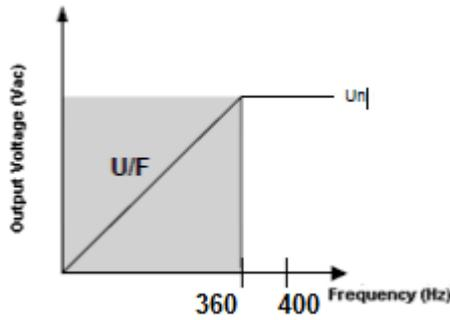

Figure 4.1: Actuation point for U/F protection
**Erro! Fonte de referência não encontrada.** Figure 4.1 shows the curves for voltage variation as a function of frequency variation. For nominal frequency operation, U/F is disabled. When rotation decreases (for ex. when shutting down), excitation diminishes, reducing the output voltage of the alternator. The drop follows a straight line of 7,5 V/Hz.
The **U/F** trimpot determines the trigger point of the U/F mode, which can be the nominal frequency ( $F_n$ ) down to 1/3 of  $F_n$ , and leaves the factory adjusted to 10% below  $F_n$ . For operation in 400Hz it is adjusted to 360Hz (see Figure 4.1). These values can be altered according to the needs of each application.
1. Do not set the U/F protection below 20 % of the rated alternator frequency. The configuration should be done according to Figure 4.1 to avoid problems when shutting down.